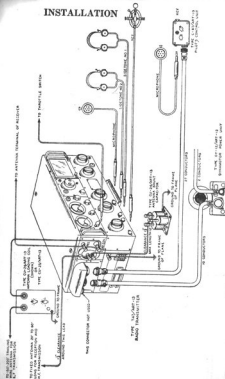

FIG. 3. MODUL. AVANT-13 COMPLETE INSTANTANÉE
a. Figure 3 shows a complete AN/ART-13 installation. This drawing shows all accessories, including low frequency oscillator, low frequency loading coil, shunt antenna capacitors, pilot's control box, etc.